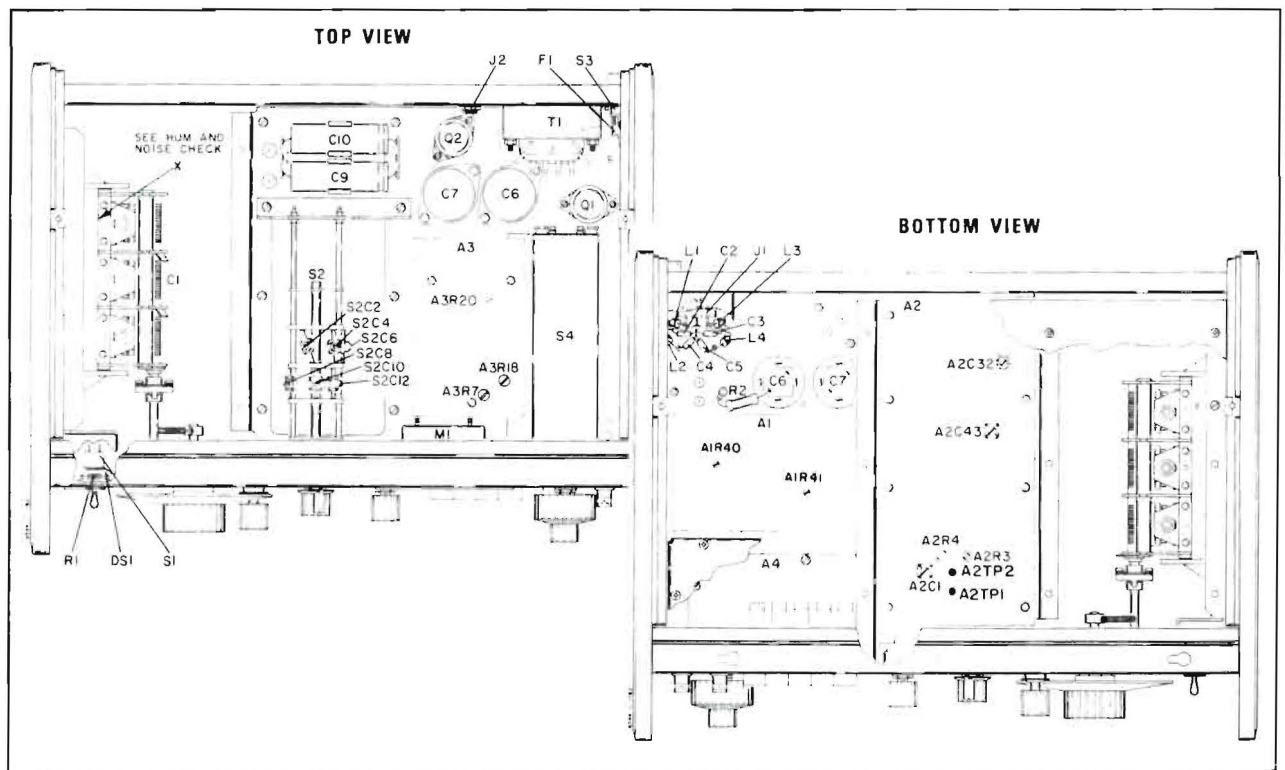

Figure 5-14. Location of Internal Adjustments
d. Remove the 654A top cover: insert a screwdriver between the tuner capacitor (point X on Figure 5-14) and chassis ground. The residual hum and noise indicated on the ac voltmeter should be greater than 70dB below the 0dB reference.
be performed only if it has been determined by the Performance Checks that the 654A is not meeting its specifications. Figure 5-14 shows the location of all internal adjustments.
5-48. The frequency calibration set-up is shown in Figure 5-14 (do not make the set-up at this time); the frequency should be continuously monitored at the rear panel COUNTER OUTPUT. Table 5-2 lists the accuracy required at each check frequency; adjustments for each range are listed in Table 5-4. Components located on the FREQUENCY RANGE switch (S2) are identified on the switch drawing of Figure 7-2.